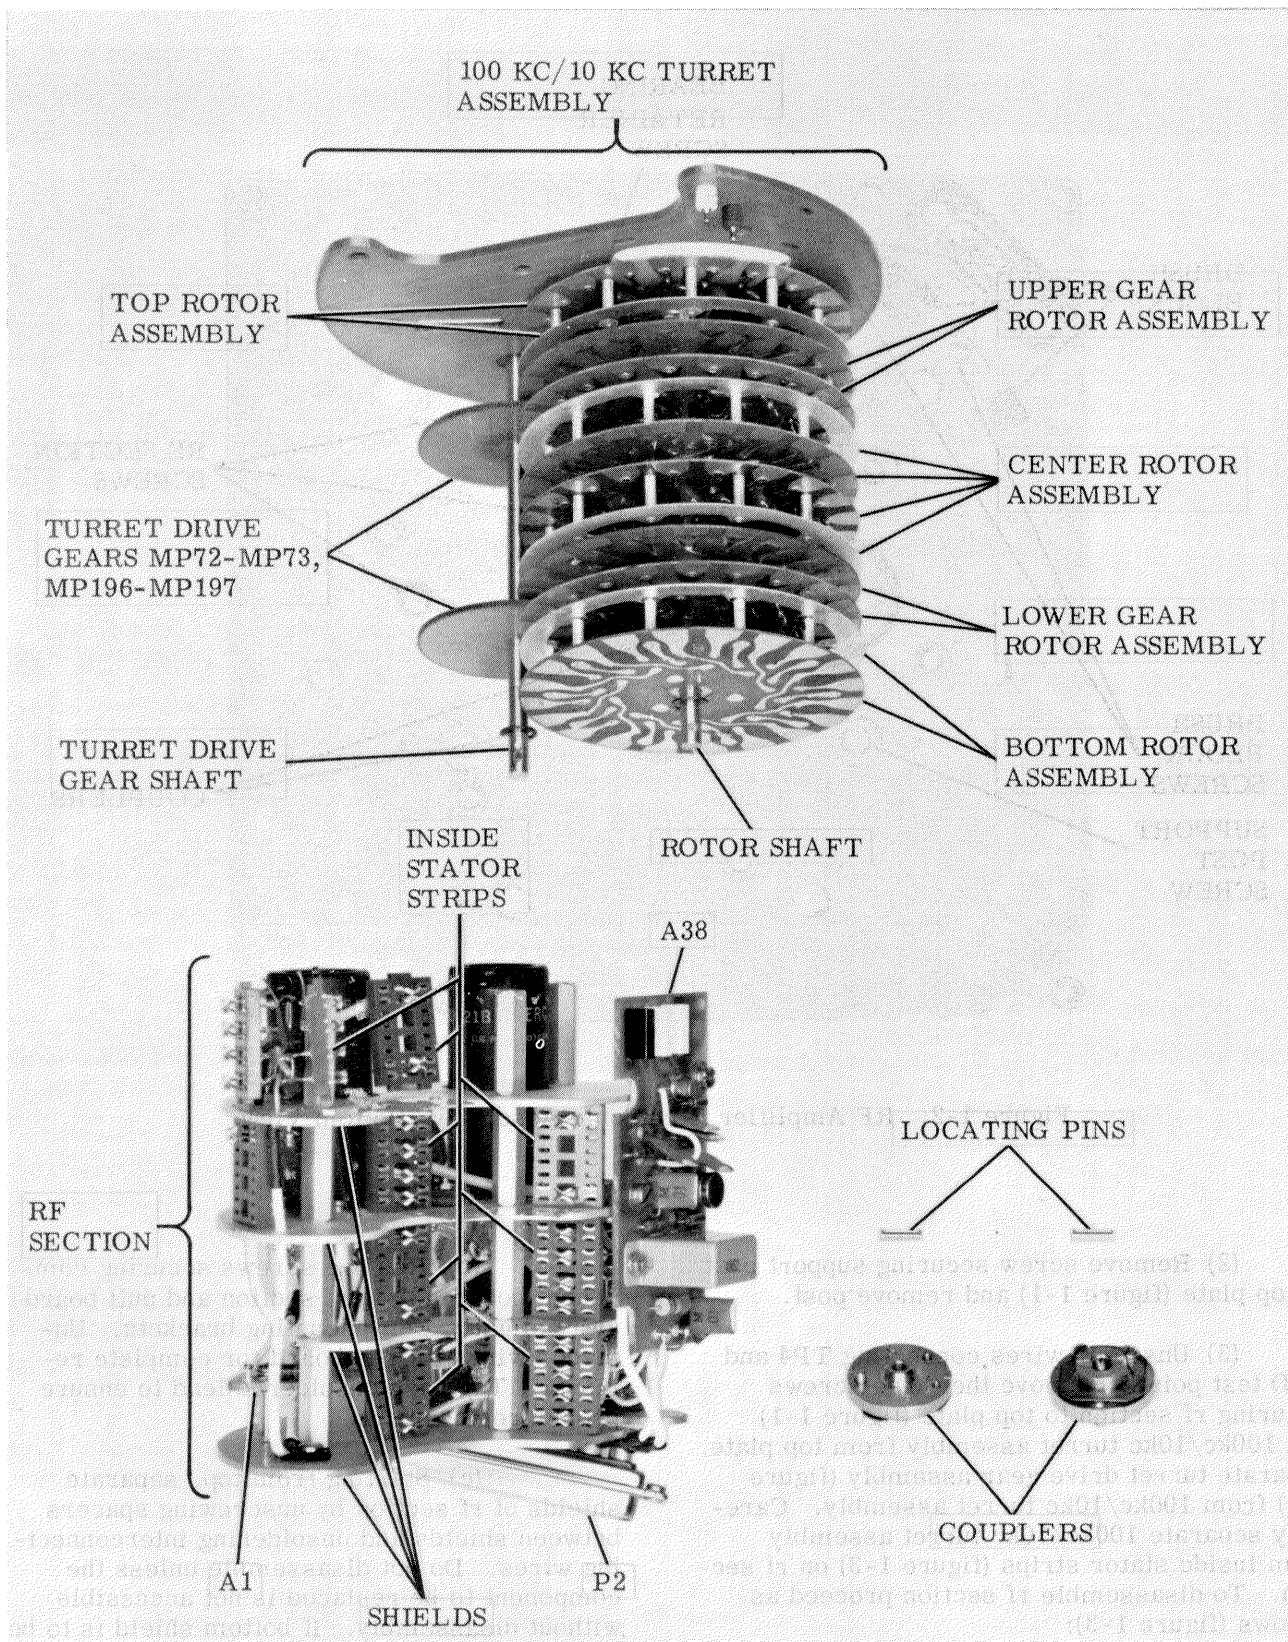

Figure 1-3. Tuning Assembly and RF Section, Component Location
g. Carefully remove locating pin from each shaft (figure 1-3).
(3) Unsolder wires connecting TP4 and GRD test point. Remove the three screws securing rf section to top plate (figure 1-1) and 100kc/10kc turret assembly from top plate. Separate turret drive gear assembly (figure 1-3) from 100kc/10kc turret assembly. Carefully separate 100kc/10kc turret assembly from inside stator strips (figure 1-3) on rf section. To disassemble rf section proceed as follows (figure 1-3):
(2) Carefully mesh wafers of the 100kc/10kc turret assembly with all contacts. The two inner stator contact strips on the upper rf section are not secured until the top plate is secured. These contact strips should be positioned in a vertical plane and then meshed with the wafers. Ensure that the shields of the rf section extend over the wafers and that the grounding springs attached to shields 2, 3, and 4 are positioned on the top side of the 100kc/10kc turret assembly.
(3) Slide wires out from contacts. Visually check that all contacts of stator contact blocks close sufficiently on wafers.
j. Slide coupler onto 100kc/10kc turret assembly shaft. Ensure that the hub of the coupler is not beyond the bottom surface of the base. Tighten setscrew on the coupler against flat of the 100kc/10kc rotor shaft (figure 1-3).
k. Rotate coupler so that 0 on coupler is opposite notch in base. Insert 4-inch, .125-inch (dia.) rod in top alignment hole on top shield. Rod should then pass through all wafers to base. If the upper rotor assembly or the lower rotor assembly (figure 1-3) has been rotated from the position established in procedure 1-10b., reposition either or both assemblies to allow the rod to pass through freely.